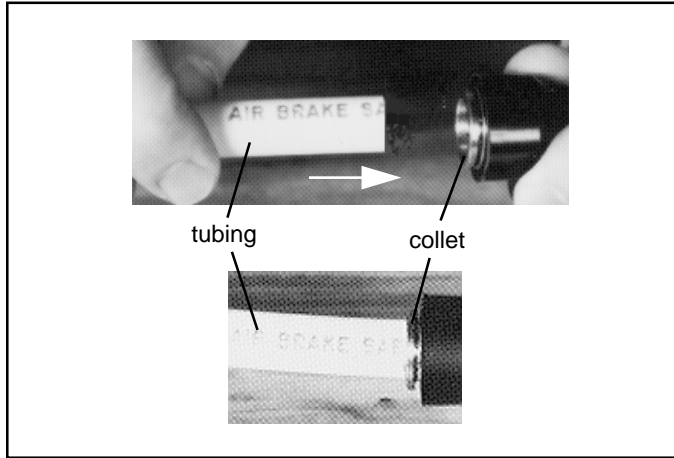

Figure 3 - Tubing Installation
2. Reconnect all air lines to the valve using the identification made in "REMOVAL." (See Figure 3.)